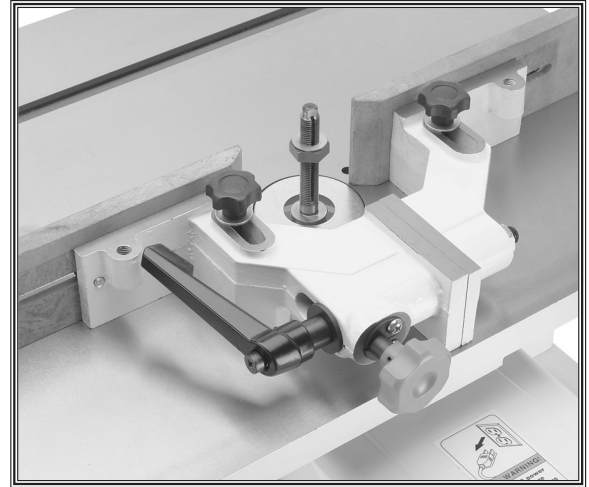

Figure 29. Fence controls.
1. Loosen the locking handle shown in **Figure 29**.